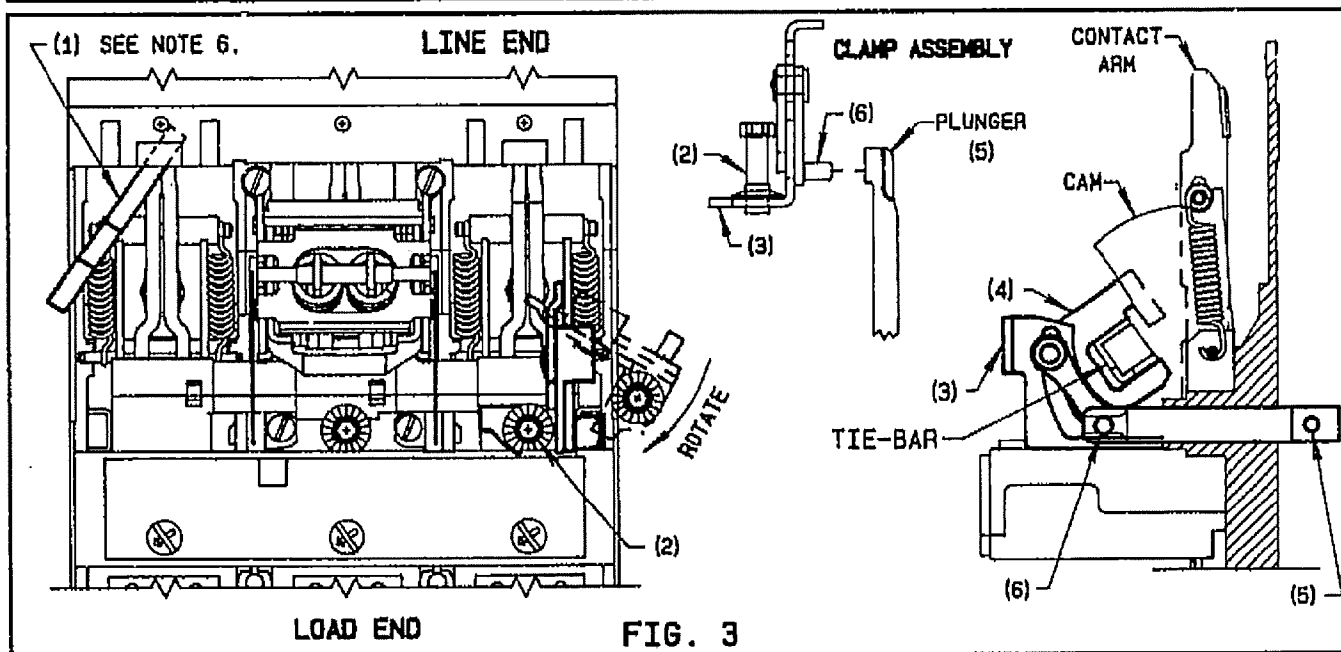

FIG. 3
6. While pressing contacts downward to cause circuit breaker to close, insert safety block (1) into the line cover slot on the left pole as shown in Fig. 3 to secure the contact in the CLOSED position. NOTE: For circuit breaker types HHJD6, HCJD6, HHLD6, HCLD6, insert opposite (narrow) end of safety block into the slot. Slowly release the contacts and confirm that the contacts are held in the CLOSED position.
7. Attach the clamp assembly and plunger. See Fig. 3.
- a. Partially engage the captive socket head cap screw (2) threads into support (3) threads as shown in clamp assembly detail in Fig. 3.
- b. Place front edge of clamp (4) over the right hand corner of the cam, pushing the clamp downward to align with the tie-bar. Rotate the clamp assembly over the tie-bar and slide the clamp assembly approx. 1/2 inch to the left.
- c. Insert the plunger (5), as shown in Fig. 3, into the access hole in the base of the circuit breaker.
- d. Slide the clamp assembly to the right while inserting the pin (6) into the plunger hole.
- e. Secure the assembly in place using the cap screw (2). Tighten the screw to 140 in.-lbs.